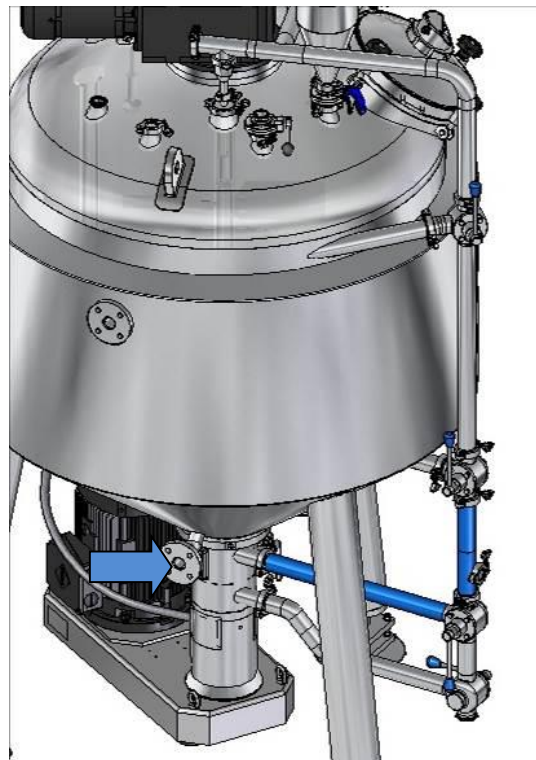

Fig 6.4. Circulation without lower shearing
- Circulation without lower shearing (Fig 6.4)